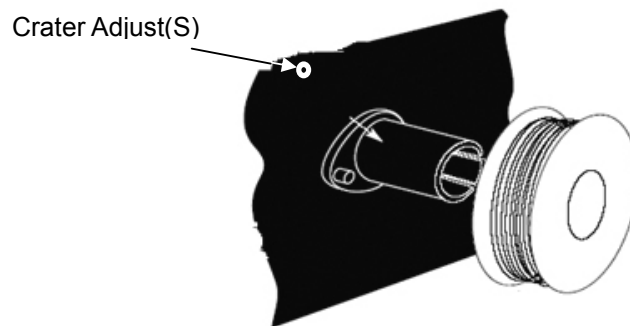

Figure 3.2
- 3-2.7 Adjust the crater fill knob located above the wire spool inside the machine (see Figure 3.2) if there is a crater left at the end of the welding seam. This knob Adjust current decline time (in second) after the gun switch is released.